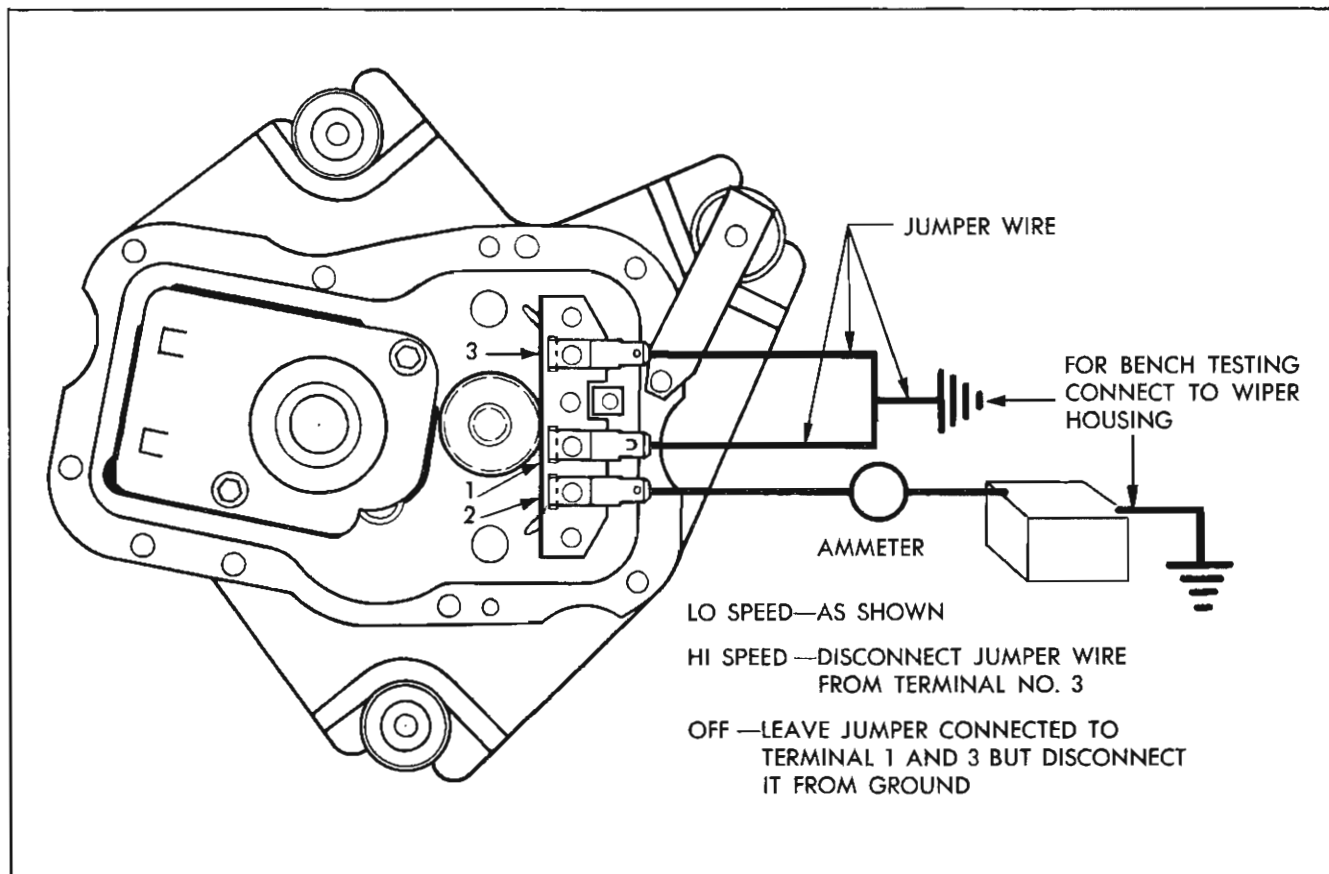

Fig. 11-75 Connections for Testing
Fig. 11-75 illustrates the method of connecting leads to the wiper for either bench operation or to run wiper independently of dash switch and car wiring when installed in car.
2. With ignition switch on, check for 12 volts at harness terminal that connects to number (2) terminal (Figure 11-75).
3. To determine if dash switch or car wiring are at fault, disconnect harness from wiper motor and try operating wiper as shown in Fig. 11-75. If wiper fails to operate, remove body parts as required, disconnect transmissions from wiper crank arm and recheck wiper operation. If wiper still fails to perform correctly, remove wiper from car and check wiper ac-
2. Disconnect wiring harness from wiper motor and try operating wiper independently of dash switch as shown in Fig. 11-75.
It is assumed that in many cases there is no information available to the repairman about the original wiper complaint. It is necessary, therefore, that wiper operation be checked according to the instructions shown in Fig. 11-75. NOTE: Be sure and use an ammeter capable of reading at least 30 amperes in the feed wire circuit.